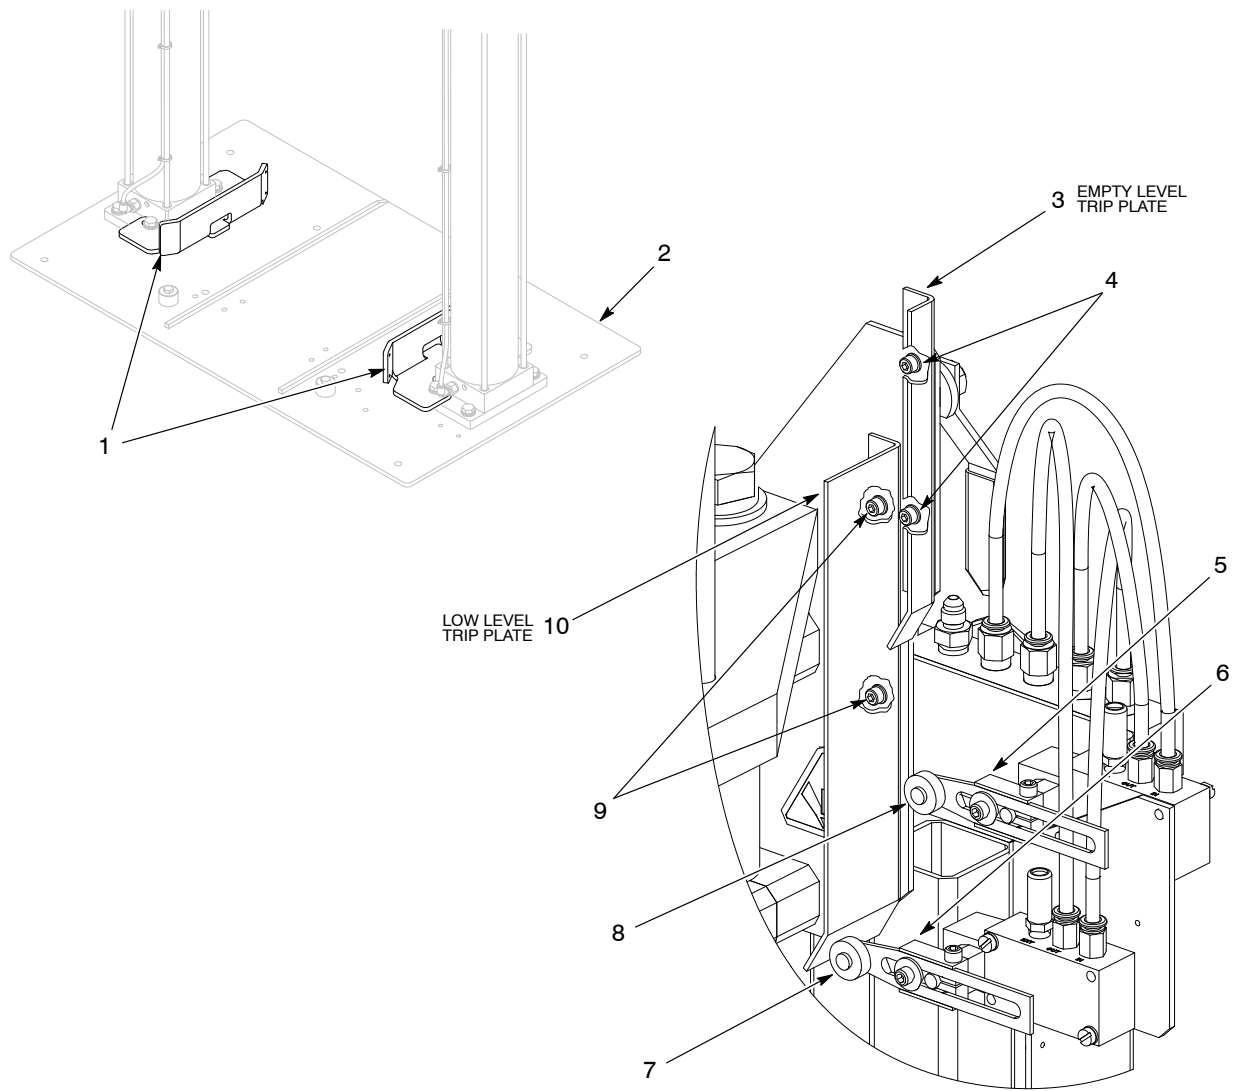

Figure 3 Typical Trip Plate Adjustment (*Low and Empty Pail Level Indicators Shown*)
1. Refer to Table 2 and see Figure 3. If applicable, remove the drum guides (1) from the frame (2).
1. See Figure 3. If applicable, remove the drum guides (1) from the frame (2).